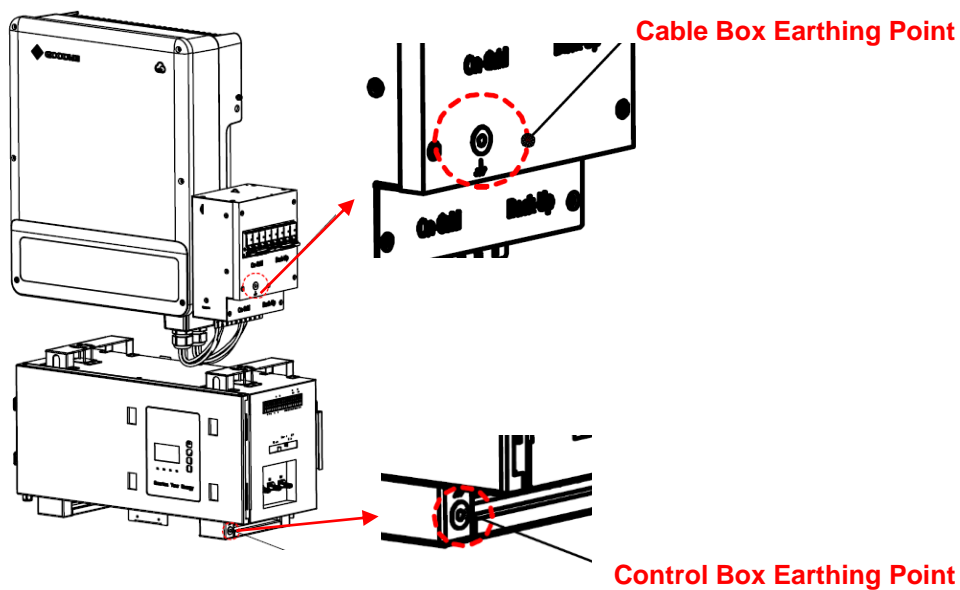

Figure 33 Earthing Points
Step 15: Figure 33 shows the earthing points on the HV50056 and cable box. Please connect them to the grounding copper bar of the customer.